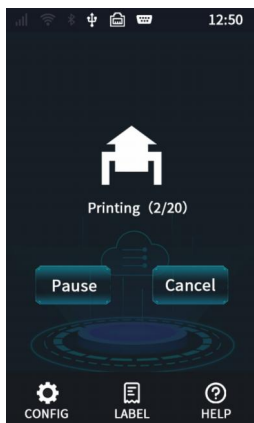

Figure 1
1. During the printing process, press [Pause button/Continue button] or click [Pause] on the screen in Figure 1 below to pause the current printing task. Select Cancel to cancel the current print task.